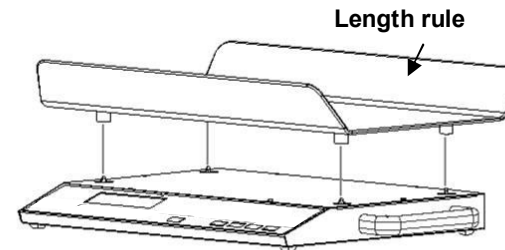

Figure 1: Install Cradle
2. The acrylic cradle has a built-in length rule. Align the cradle so that the rule is positioned over the back end of the scale platform (Fig. 1).